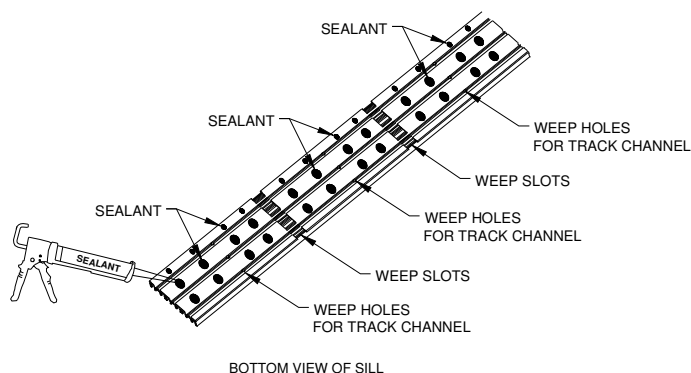
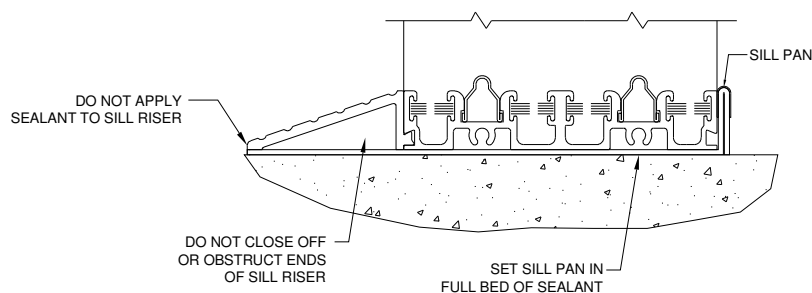

Figure 17:
Figure 18:
1. Attach sill to the sillpan with a compatible sealant (Figure 17). Do not place sealant in or next to weep slots or weep holes cut or drilled in bottom of sill (Figure 18). Sealant that blocks weep slots will prevent sill from weeping.